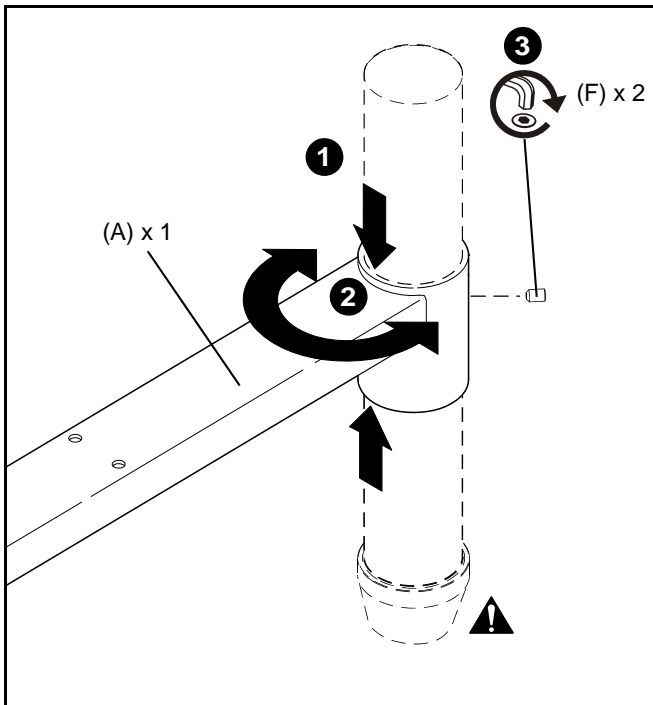

Figure 1
2. Slide projector arm (A) onto pipe and position at desired location.
3. Secure projector arm (A) to NPT pipe using two 5/16-18X3/8" set screws (F). (See Figure 1)
WARNING: IMPROPER INSTALLATION CAN LEAD TO MOUNT FALLING CAUSING SEVERE PERSONAL INJURY OR DAMAGE TO EQUIPMENT! In installations where pipe is mounted to the ceiling, and end cap **MUST** be used on bottom end of pipe. (See Figure 1)